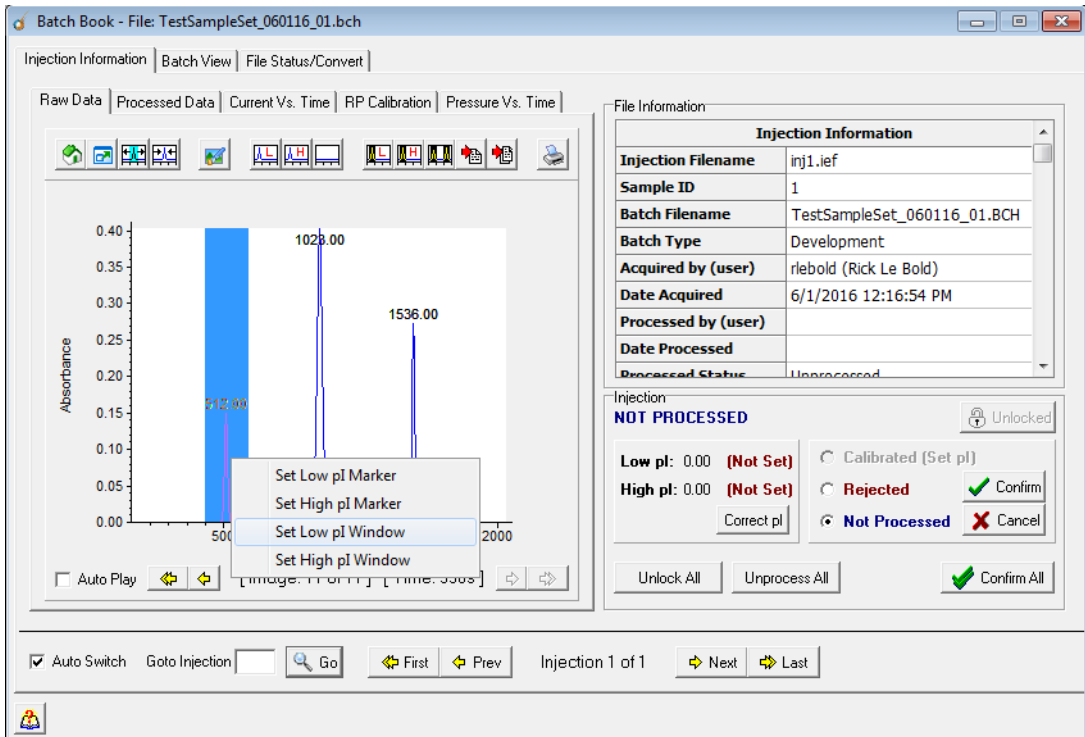

Figure 7-19: Setting low pI window in the Injection Information tab.
1. Set the low pl marker window by clicking in the electropherogram and dragging the mouse over the low pl marker peak (typically the first peak) as shown in Figure 7-19. If there are multiple peaks at the beginning of the data, the low pl marker will be the largest peak.
2. Click the **Set Low pI Window** button or right click and select **Set Low pI Marker Window** (Figure 7-19).